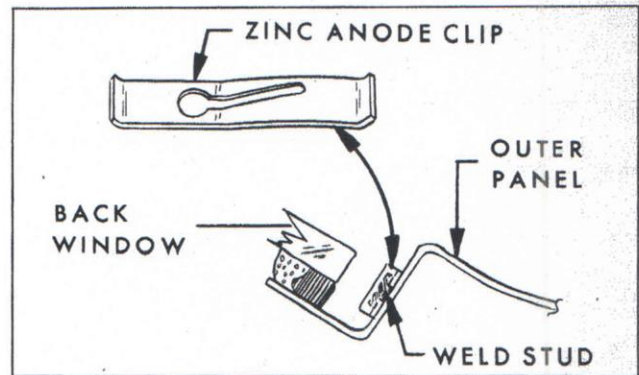

Fig. 17-6—Zinc-Anode Clip Installation
2. Install emergency replacement clip (Group 10.096) as shown in Figure 17-6. Use self sealing screw or apply body caulking compound around clip hole to effect a watertight seal.